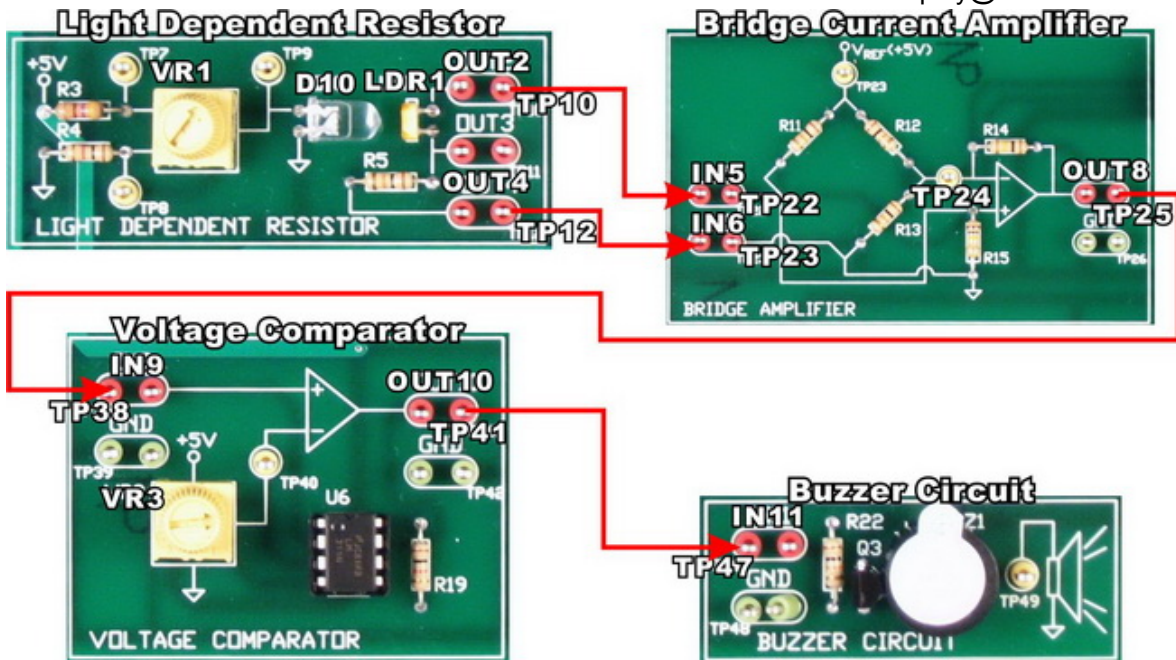

Figure 4 – Circuit Connections for the Light Dependent Resistor Test
3. Connect the Light Dependent Resistor, the Bridge Current Amplifier, the Voltage Comparator, and the Buzzer Circuit as shown in Figure 4.